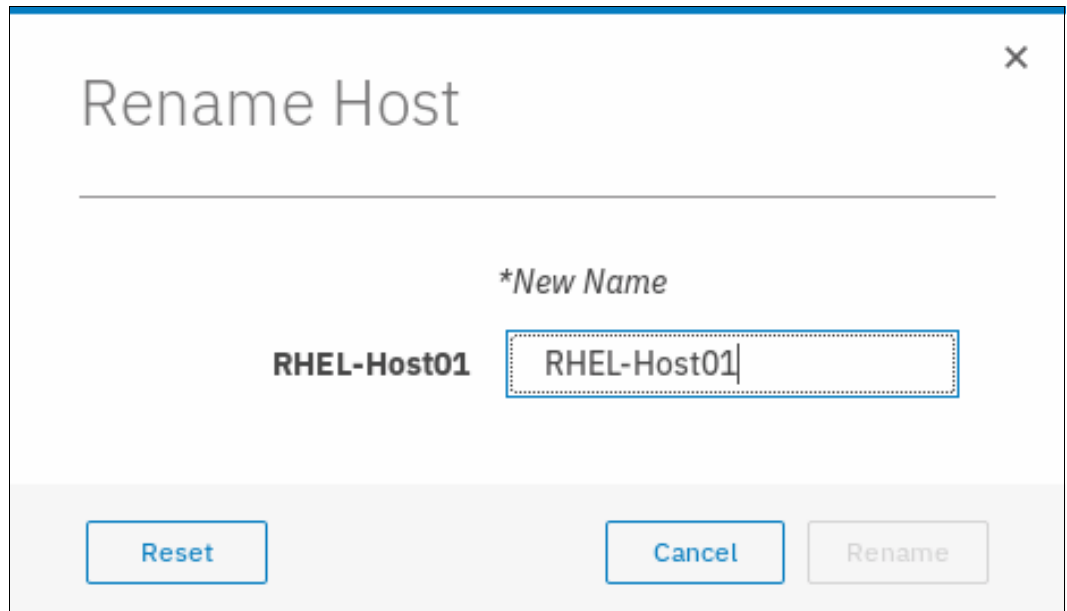

Figure 8-16 Rename a host window
3. A window opens in which you can enter the new name, as shown in Figure 8-16.